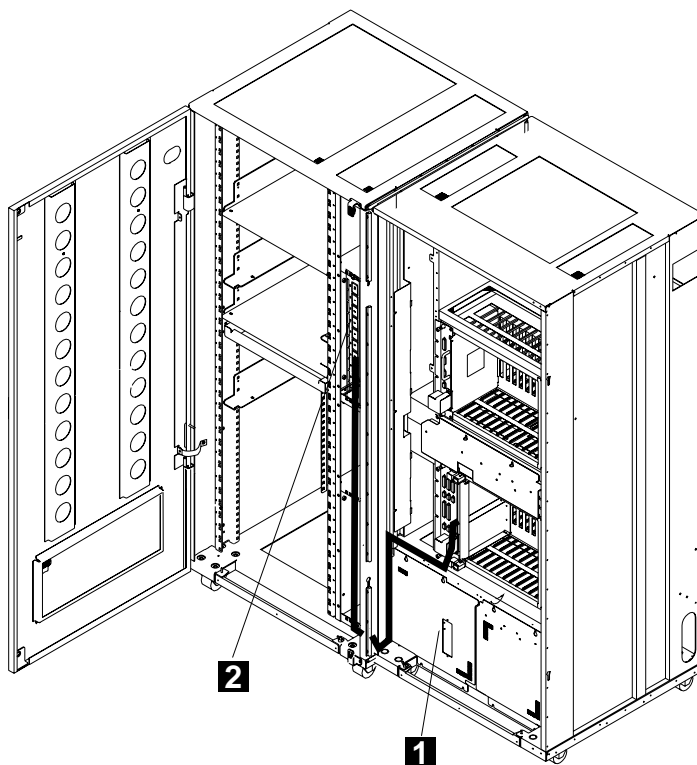
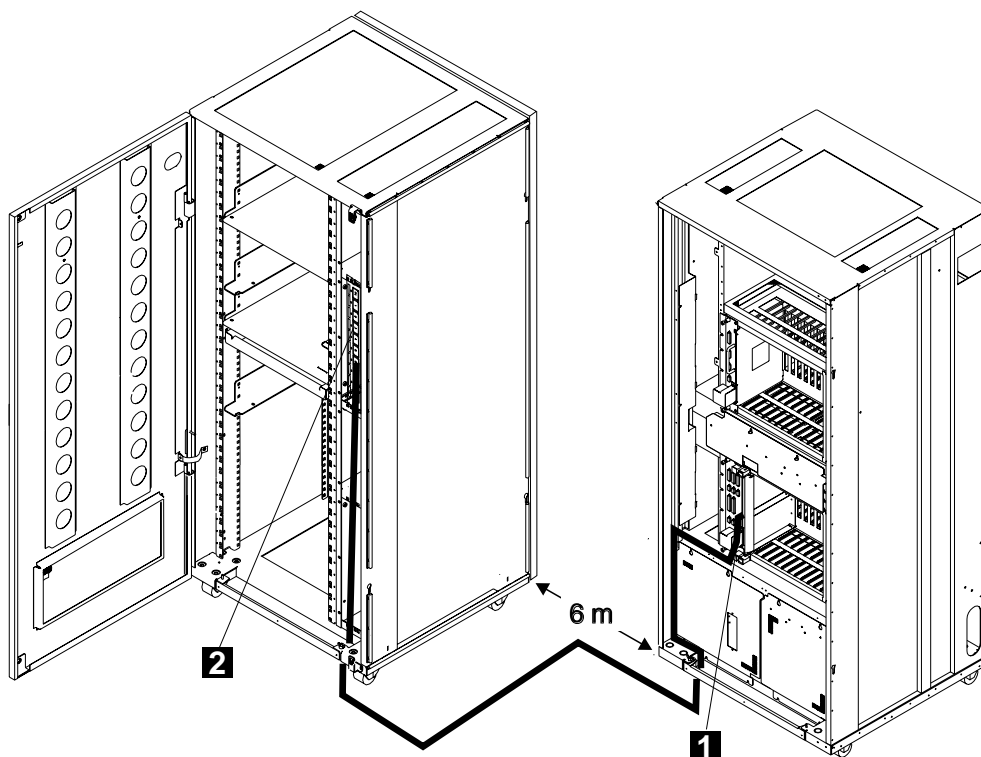

Figure 2-25. Routing the Cable from a TIC3 to a 8228 (Controller Expansion Attached)
Figure 2-26. Routing the Cable from a TIC3 to a 8228 (Controller Expansion Detached)
- b. ____ Route and connect the **8228** to the TIC3 using the token ring attachment cable PN 76F9441 (9 m, 27 ft). To route the cable, refer to Figure 2-25 on page 2-22 or Figure 2-26 on page 2-22.